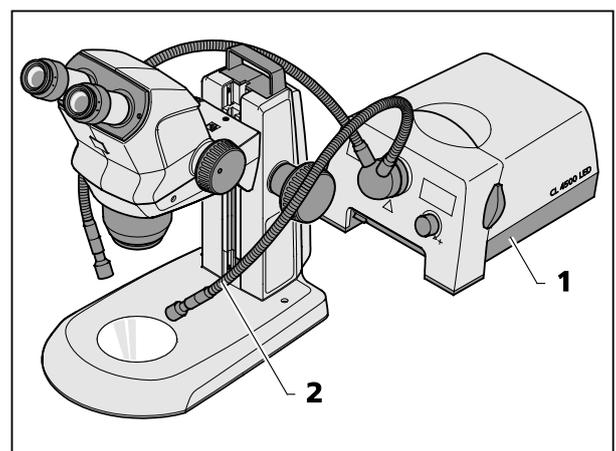

Fig. 10 Mounting external fiber-optic illumination
- Switch on external fiber-optic illumination (Fig. 10/1), adjust illumination intensity and set illumination by bending the two goose necks (Fig. 10/2) so that the specimen is optimally lit.